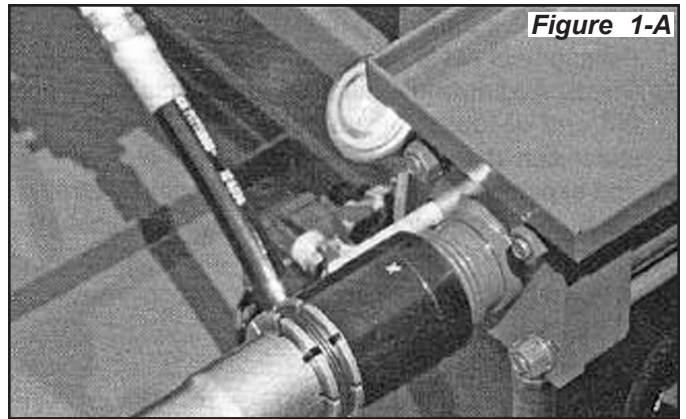

Figure 1-A
5. Adjust the buttress canister until the grooved line on the canister is lined up with the grooved line on the aluminum pointer. Then center the "X" symbol on top. With the buttress canister properly lined up, the arbor will automatically stop so that the tubing is expanded to the exact inside diameter for the corresponding size segment set. (See figure 1-A)